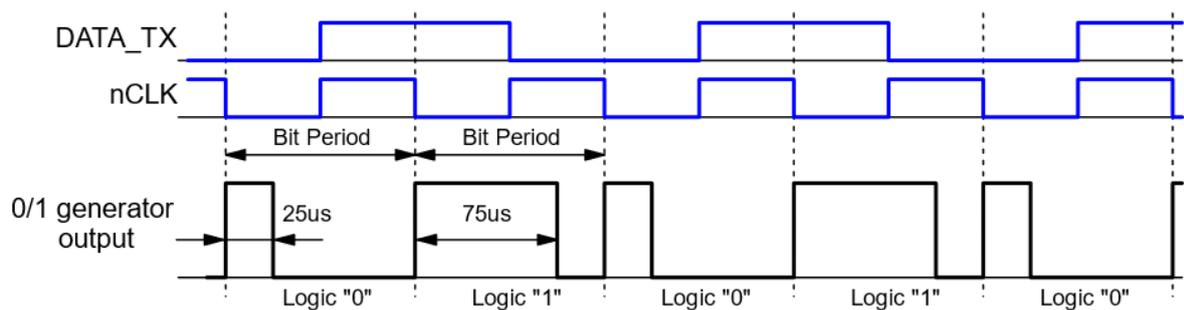

Figure 5: 0/1 coding
4. 0/1 generator - Bits stored in SHRs are converted to the time-dependent pulses. "0" is converted to a 25us pulse and "1" is converted to a 75us pulse. The converted bits duration is shown in Figure 5 (more details can be found in Cookbook Technique: Sending Serial Protocols Using Duty Cycle Detection [8]).